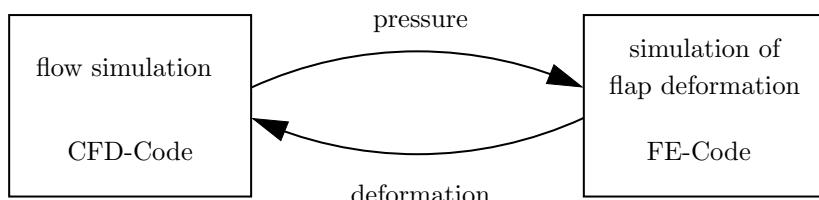

Figure 2: Exchange of quantities in the example FSI simulation.
The computation of the pressure distribution and the flow rates is achieved using *Computational Fluid Dynamics* (CFD), whereas the deformation of the flap can be computed applying numerical structural mechanics via a *Finite Element* (FE) code. Each domain has a significant influence on the other, thus the problems cannot be solved separately. The CFD simulation requires the deformation of the flap as a boundary condition, whereas the FE simulation requires the fluid pressure as external load. Thus during a co-simulation, these quantities must be exchanged as shown in Figure 2.